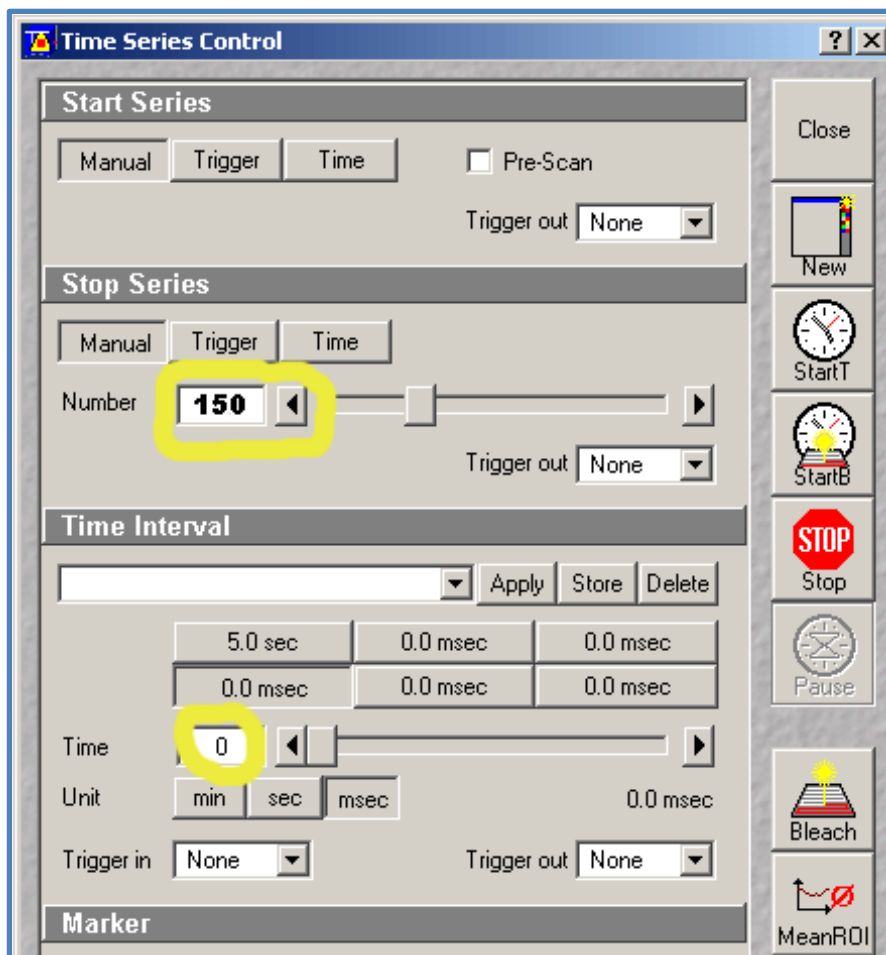

Figure 1.
- Set up a time-series to scan continually for as many scans as you estimate will cover your recovery time in the final FRAP experiment (e.g., if you are scanning at 5 frames a second and expect your recovery to take at least 30 seconds then you should set a time-series to run at least $30 \times 5 = 150$ scans). [See Figure 1]